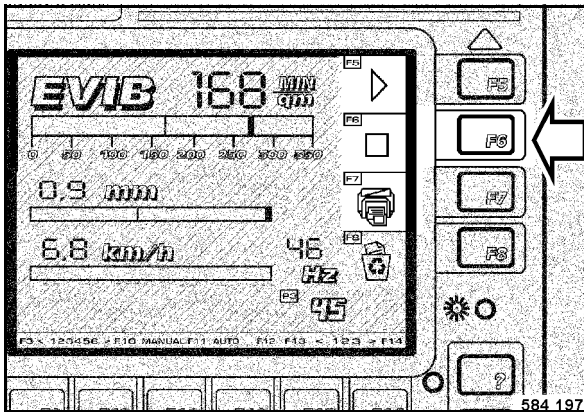

Fig. 98
- Drive forward and reverse passes on a track until the green control field to the left of F5 (Fig. 98) goes out and the red control field F6 below lights up after pressing the stop button F6.